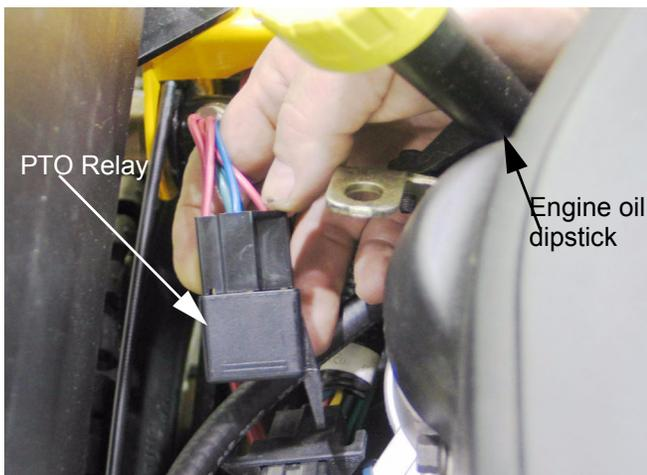

Figure 28.6
28.6. **PTO relay:** The PTO relay can be found on the main harness conduit, near the left front corner of the engine. See Figure 28.6.